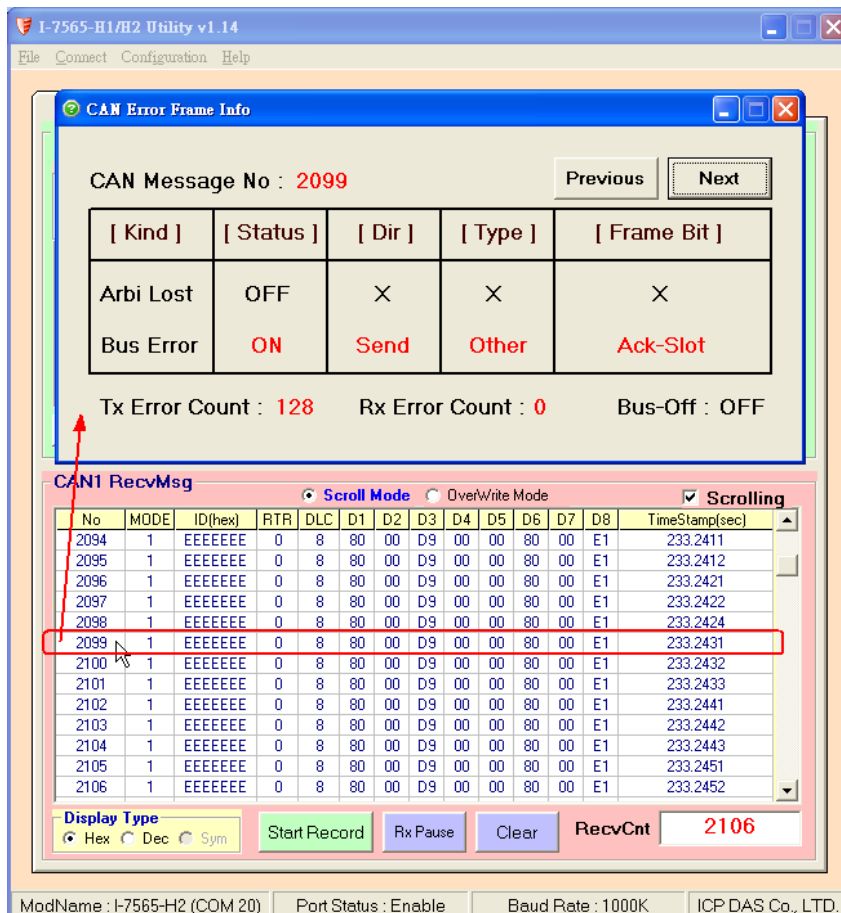

Figure 7-15-2 The detailed CAN Error Information
(3) If CAN error has happened, the CAN error information will be shown in “**CAN RecvMsg**” field. Users can click the error column to see the detailed error information like Figure 7-15-2.